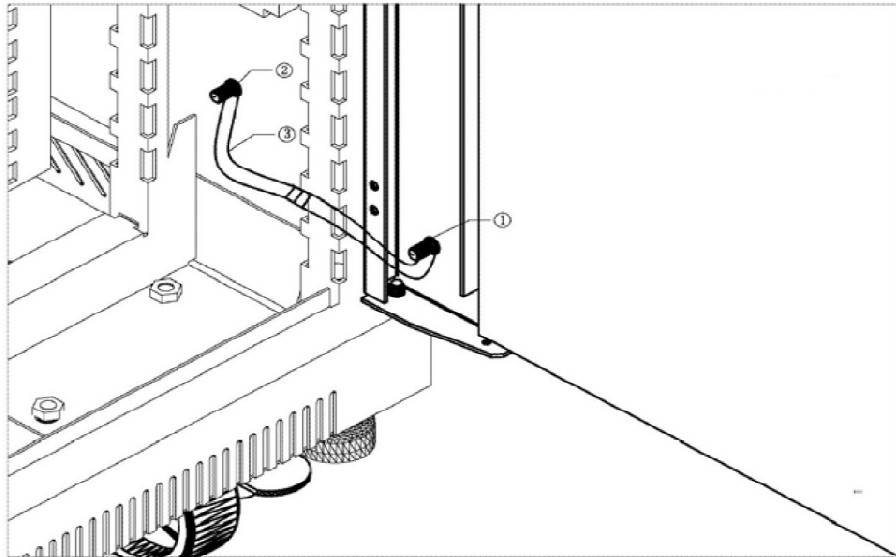

Figure 4 Schematic Diagram of Cabinet Grounding
The cabinet door shaft contains one yellow screw as shown in Figure 4, identified with marker ①. Figure 4, marker ②, represents another grounding terminal in the same position in the cabinet. Connect the two terminals with a wire.